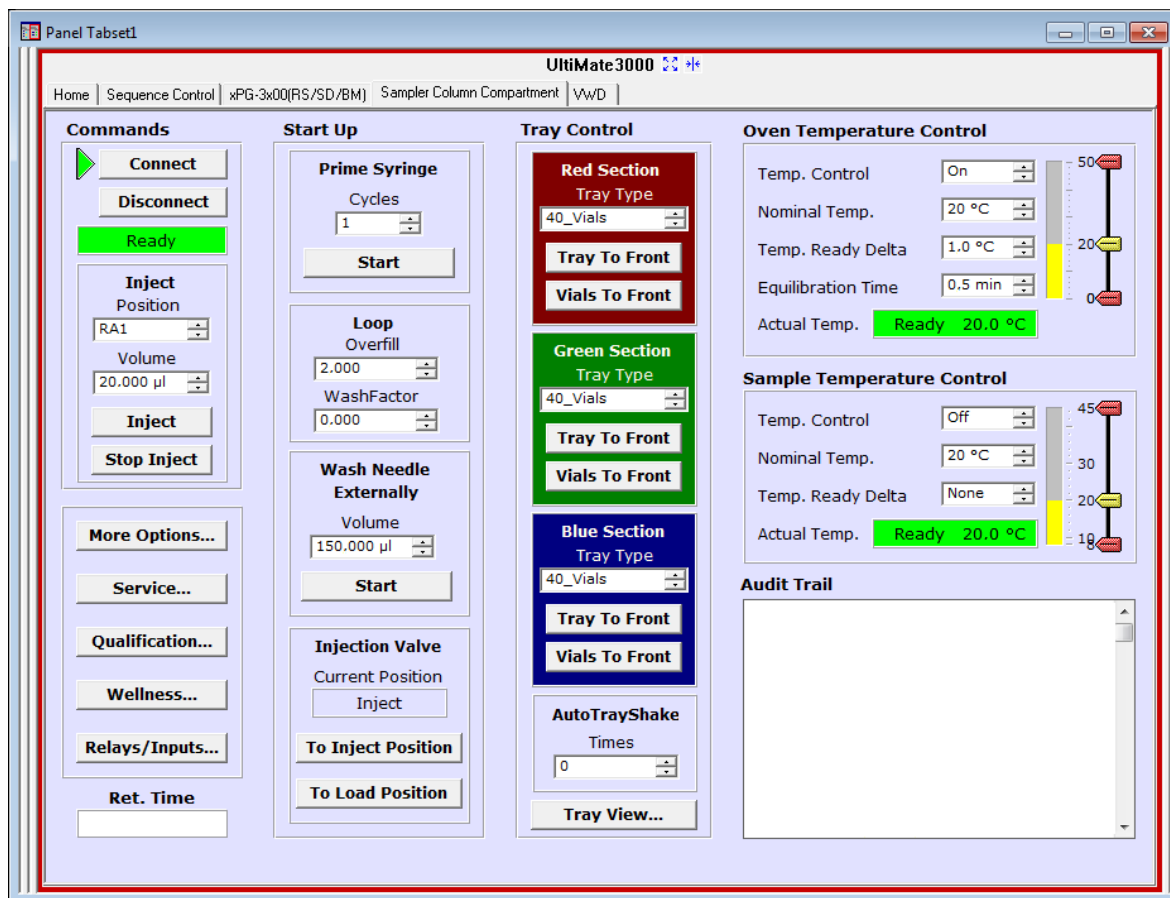

Fig. 30: Autosampler Control Panel on the Panel Tabset
Chromeleon creates centralized control panels, called panel tabsets (→ Fig. 30, page 62), for all timebases available on the Chromeleon server. A panel tabset provides control panels for the individual instruments in a timebase and, in addition, one or more panels for performing system-wide functions, for example, creating and running sequences. For more information about panel tabsets, see the *Chromeleon Help*.
2. On the **Panel Tabset** for your timebase, click the **Sampler Column Compartment** page (→ Fig. 30).